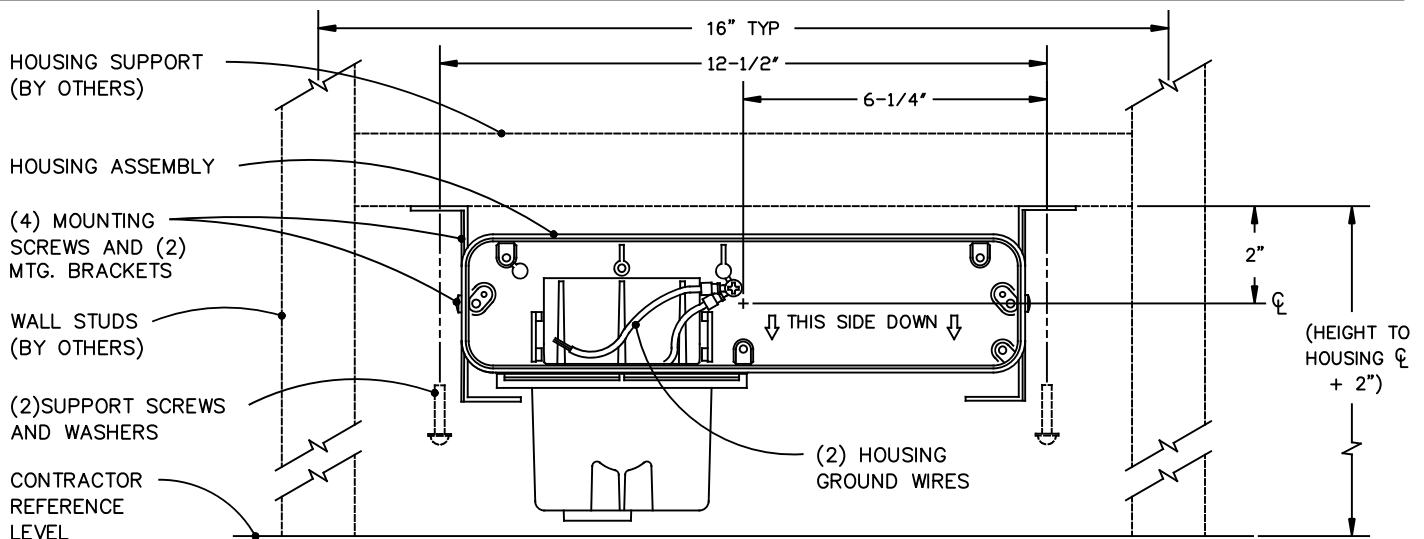

FIG. 1
2. Attach mounting brackets from mounting kit to housing per fig. 1 using screws on housing, slots towards rear of housing.
4. Use dimensions provided by site contractor and figs. 1 and 2 to pre-locate housing supports. Suggest fabricating supports using scrap wall stud material.
5. Position, level, and install the housing supports from step 4 between wall studs per figs. 1 and 2. Insure supports are level front to back as well as side to side.
6. Install support screws and washers, supplied by others, to housing supports just installed. Locate and space per figs. 1 and 2 and site contractor dimensions. Do not fully tighten.